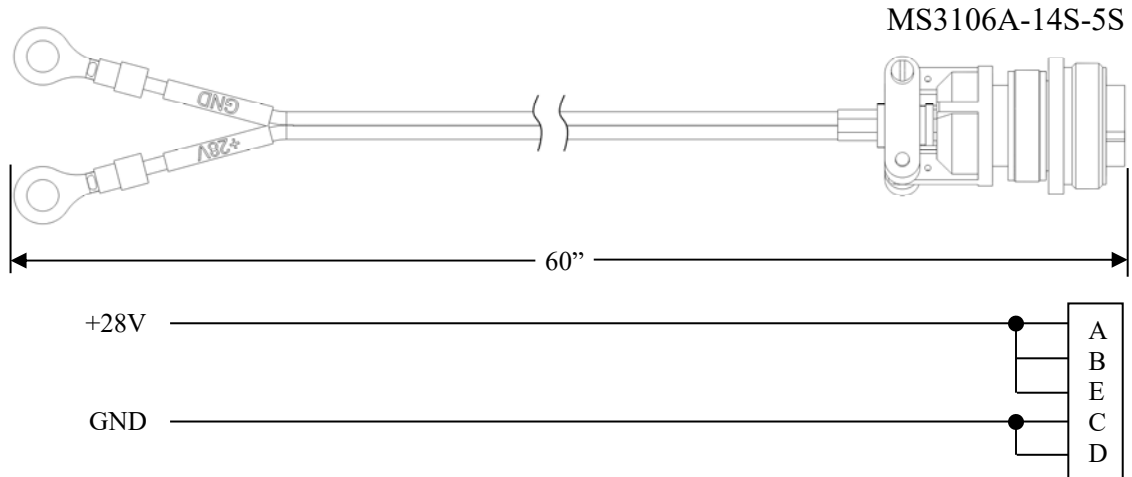

Figure B-1 Military Vehicle DC Power Cable (part number 1035-77200-00006 included)
- d. Ensure DC power source (28 VDC recommended) is turned off and connect it to the DC INPUT jack on the TCR-BT-01-1 (see Note 1 below for more information regarding DC input). Refer to Figure B-1 for DC Power cable pinout.